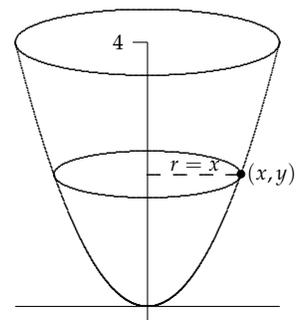

Figure 8.3: The circular cross-section formed by rotating the point  $(x, y)$  about the  $y$ -axis has radius  $r = x$ .
**Solution.** Figure 8.3 shows a sketch of the tank with a representative cross-section. The circular cross-section formed by rotating the point  $(x, y)$  about the  $y$ -axis has radius  $r = x$ . So the cross-sectional area is